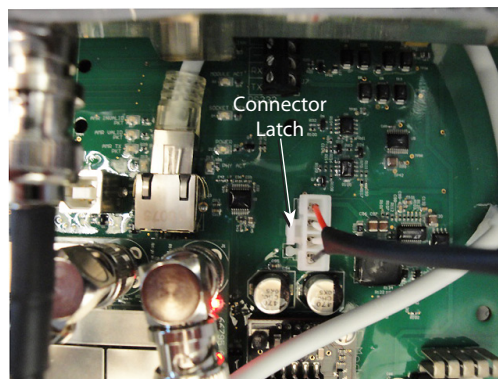

Figure 16: Battery Connector
5. Carefully install the battery connector onto the circuit board. Connector needs to be inserted only far enough so that the connector latch engages. Verify proper connector polarity is observed (see "Figure 16: Battery Connector" on page 15).